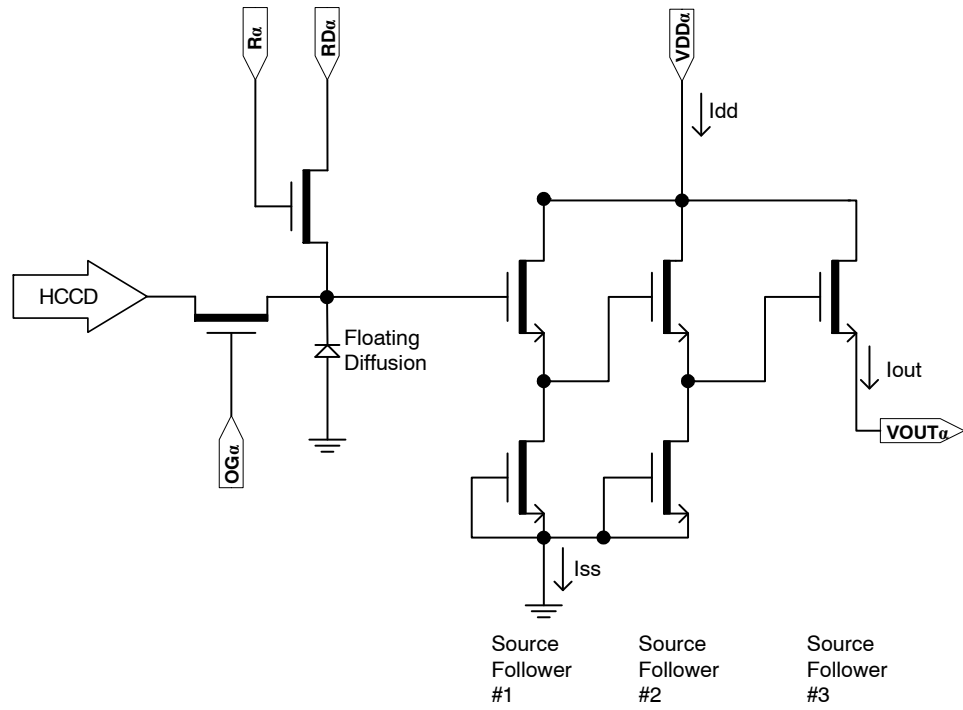

Figure 17. Output Amplifier
2. The maximum DC current is for one output. I_{dd} = I_{out} + I_{ss}. See Figure 17.